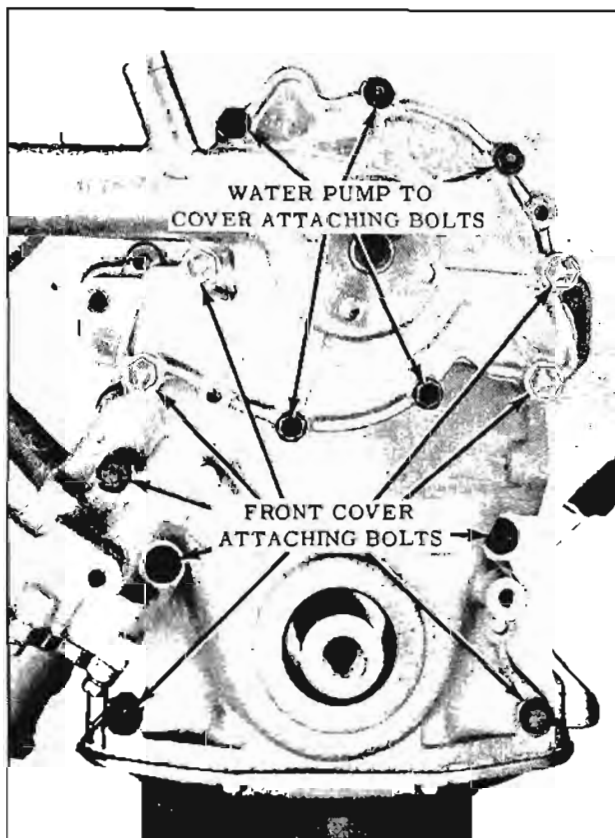

Fig. 8-138 Engine Front Cover Bolts
8. Remove nine (9) cover to block attaching bolts and remove cover. (Fig. 8-138)